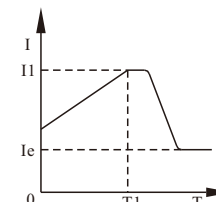

Figure 14
- Figure 14 shows the output current waveform of the current ramp starting mode, where I1 is the current limit value set by F6, and T1 is the time value set by F1.